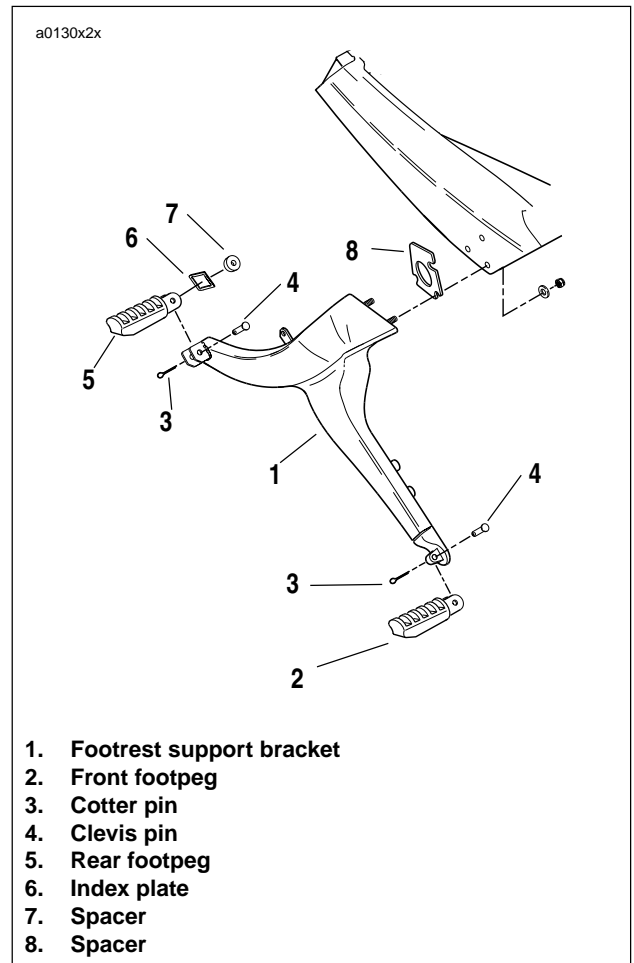

Figure 2-102. Footpeg Support Bracket (Left Side)
1. See Figure 2-102. Remove cotter pin (3).
2. Remove clevis pin (4).
4. See Figure 2-102. Remove mounting bolts located behind footpeg support bracket.
1. See Figure 2-102. Align footpeg mounting holes with footpeg support bracket mounting holes.